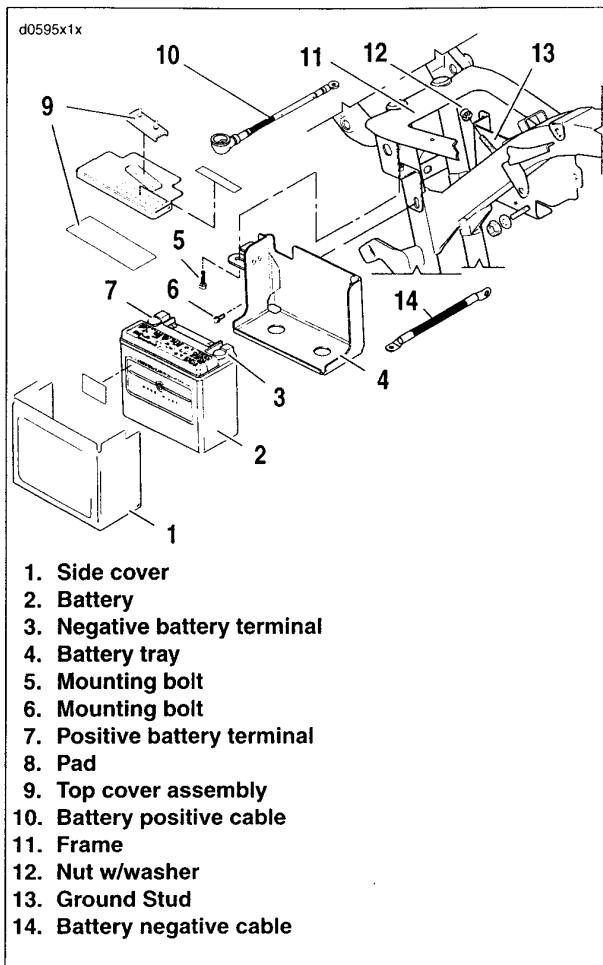

Figure 1-8. Battery Assembly
2. See Figure 1-8. Remove nut (12) from ground stud (13) on frame (11).
3. Remove battery negative cable (black, 14) from ground stud (13).
4. Unbolt and remove battery positive cable (red, 10) from battery positive (+) terminal (7).
5. Remove lower rear bolt (6).
6. Remove upper rear bolt (5). Battery tray (4) will swing down allowing battery tray to be removed.
7. Remove top cover assembly (9).
8. Remove side cover (1) if present.
10. If battery is to be replaced, unbolt and remove battery negative cable (black, 14) from battery negative (-) terminal (3).
1. See Figure 1-8. If battery has been replaced, Insert bolt through battery negative cable (black, 14) into threaded hole of battery negative (-) terminal (3). Tighten bolt to 60-96 in-lbs (6.8-10.9 Nm).
2. Place the fully charged battery into the battery tray (4), terminal side facing primary cover.